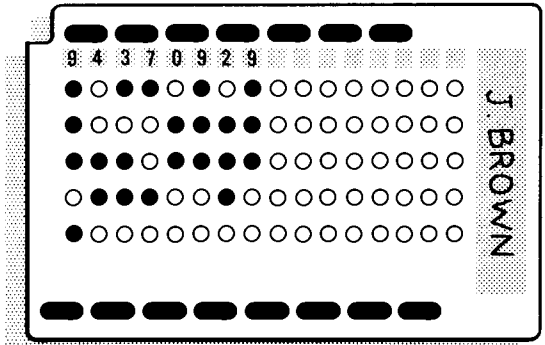

Fig.6
Fig. 6 shows a card prepared for calling 4370929 from a PABX extension. With a long IDP of 2000mS after access code (9).